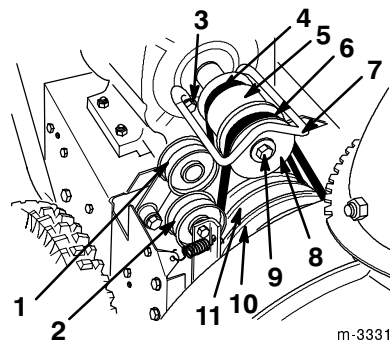

Figure 17
If the traction belt (Fig. 17) becomes worn, oil-soaked, or otherwise damaged, replace the belt. You can purchase a new belt from your Authorized Service Dealer.
5. Remove two screws, two washers, and two lock washers that secure the belt guide (Fig. 17).
6. Remove the engine crankshaft screw, lock washer, and washer (Fig. 17).
7. Separate and remove the engine pulley sheave (Fig. 17).
9. Remove the engine pulley (Fig. 17).
10. Remove the traction belt from the traction pulley and the engine crankshaft (Fig. 17).
11. Pull the traction idler pulley outward and install a new traction belt (Fig. 17).
13. Pull the idler pulley outward and loop the auger/impeller drive belt in front of the engine pulley, making sure that the belt is on the inside of the idler pulley (Fig. 17).
5. Remove the two screws, two washers, and two lock washers that secure the belt guide (Fig. 17).
8. Remove the auger/impeller drive belt (Fig. 17).
9. Pull the idler pulley outward and install a new belt around the large auger/impeller pulley (Fig. 17).
10. Loop the belt in front of the engine pulley, making sure that the belt is on the inside of the idler pulley (Fig. 17).